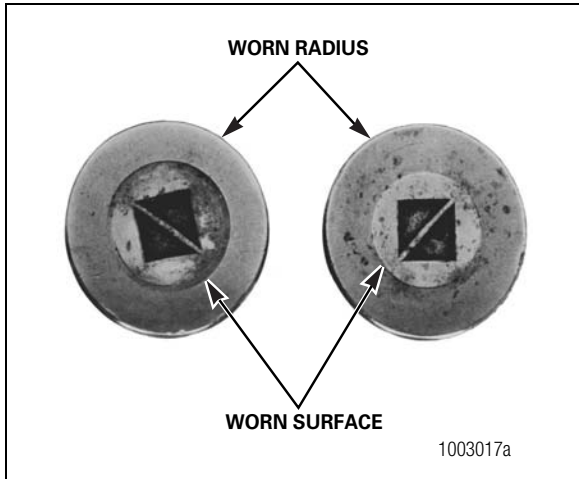

Figure 4.1
- The radius at the large-diameter end of the rollers is worn to a sharp edge. Figure 4.1.